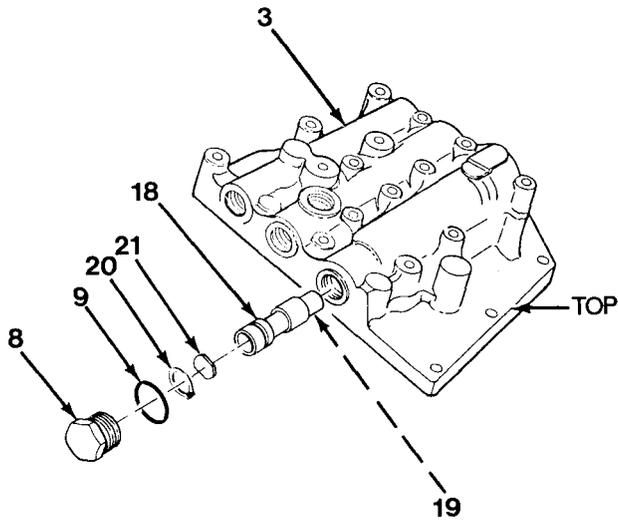
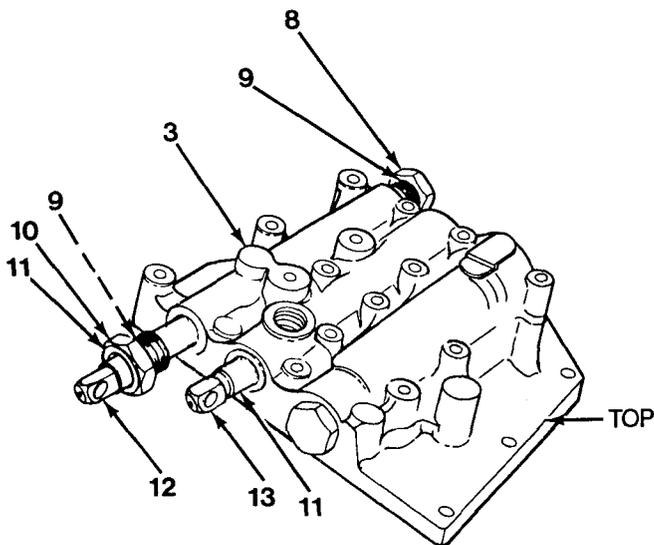

Figure 11-5
Figure 11-3
3. Install dump valve (17) in top bore of valve body (3). Dump valve (17) should move freely in bore of valve body (3, Figure 11-5).
4. Install dump valve spring (16).
5. Install O-ring (15) on dump valve plug (14).
6. Install dump valve plug (14) in top bore of valve body (3).
7. Install orifice plate (21), snap ring (20) and shim (19) to regulator spool (18, Figure 11-5).
8. Install regulator spool (18) in top bore of valve body (3). Regulator spool (18) should slide freely in bore of valve body (3).
9. Install O-ring (9) on plug (8).
10. Install plug (8) in top bore of valve body (3).
11. Install forward/reverse stem (13) in center bore of valve body (3), with linkage eye up. Push forward reverse stem (13, Figure 11-3) beyond seal seating surface.